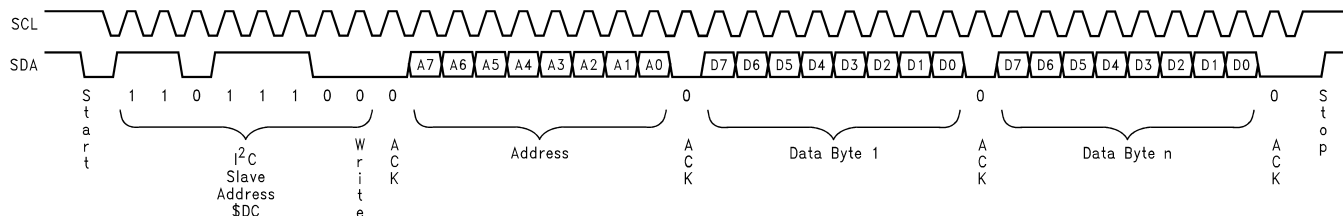
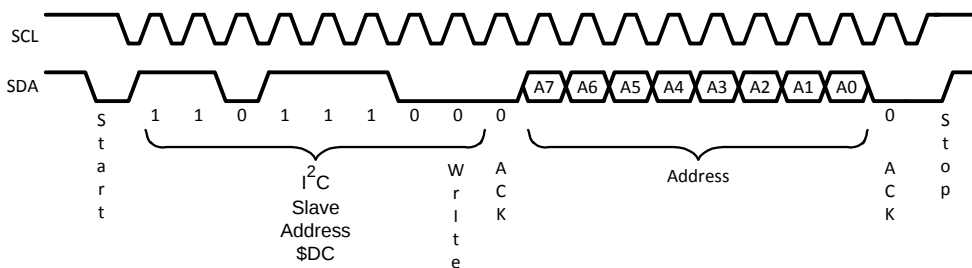
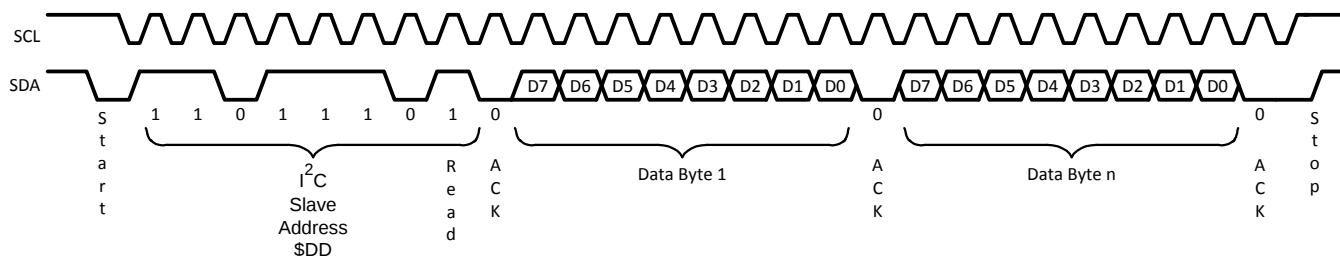

Figure 12. LMH1982 Write Sequence
Figure 13. LMH1982 Read Sequence – Address Access Transfer
Figure 14. LMH1982 Read Sequence – Data Read Transfer
The protocol of the I²C interface begins with the start pulse followed by a byte comprised of a seven-bit slave device address and a read/write bit as the LSB. Therefore, the address of the LMH1982 for write sequences is DCh (1101 1100) and the address for read sequences is DDh (1101 1101). Figure 12, Figure 13, and Figure 14 show a write and read sequence across the I²C interface.
The write sequence begins with a start condition, which consists of the master pulling SDA low while SCL is held high. The slave device address is sent next. The address byte is made up of an address of seven bits (7:1) and the read/write bit (0). Bit 0 is low to indicate a write operation. Each byte that is sent is followed by an acknowledge (ACK) bit. When SCL is high the master will release the SDA line. The slave must pull SDA low to acknowledge. The address of the register to be written to is sent next. Following the register address and the ACK bit, the data byte for the register is sent. When more than one data byte is sent, it is automatically incremented into the next address location. See Figure 12. Note that each data byte is followed by an ACK bit.
The address access transfer shown in Figure 13 consists of a start pulse, the slave device address including the read/write bit (a zero, indicating a write), then its ACK bit. The next byte is the address to be accessed, followed by the ACK bit and the stop bit to indicate the end of the address access transfer.
The subsequent read data transfer shown in Figure 14 consists of a start pulse, the slave device address including the read/write bit (a one, indicating a read) and the ACK bit. The next byte is the data read from the initial access address. Subsequent read data bytes will correspond to the next increment address locations. Each data byte is separated from the other data bytes by an ACK bit.